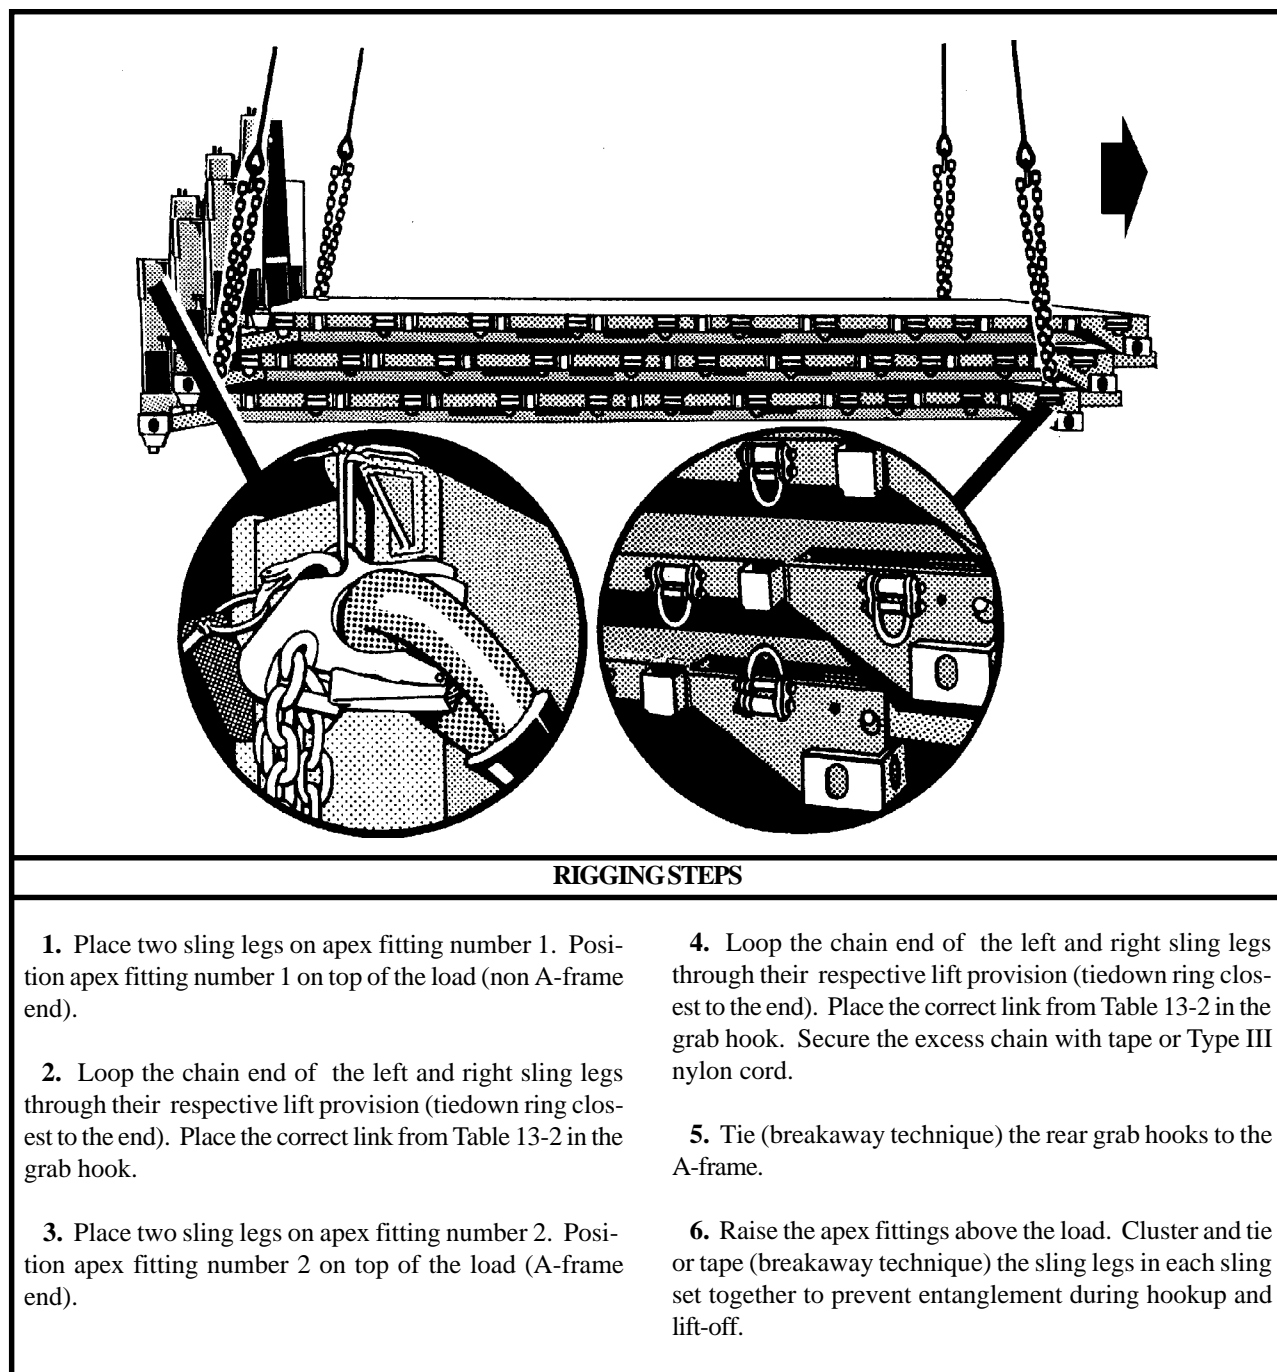

Figure 13-2. Palletized Loading System (PLS), M1077 Flatrack, Empty
(2) **Rigging.** Rig the load according to the steps in Figure 13-2.